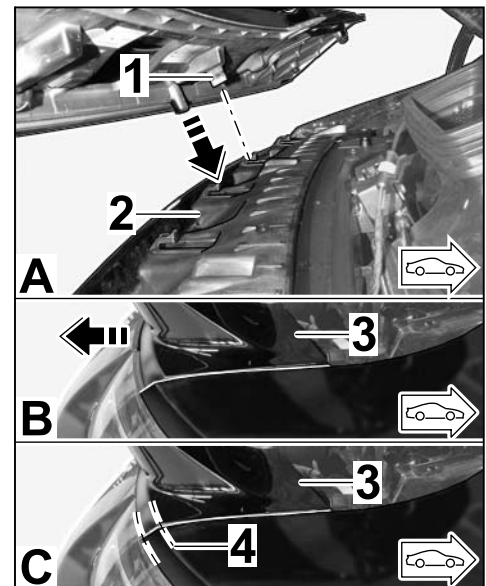

Figure 17
- 3.7.1 Carefully position rear spoiler over the mounting bracket and guide the pin (underside of rear spoiler) into the mounting bracket (⇒ Figure 17 -A-).
- 3.7.2 Press rear spoiler down and carefully pull it as far as it will go to the rear at this position (⇒ Figure 17 -B-).
The edges/radii all around the rear spoiler are flush with the edges/radii all around the wing (left/right: ⇒ Figure 17 -C-).